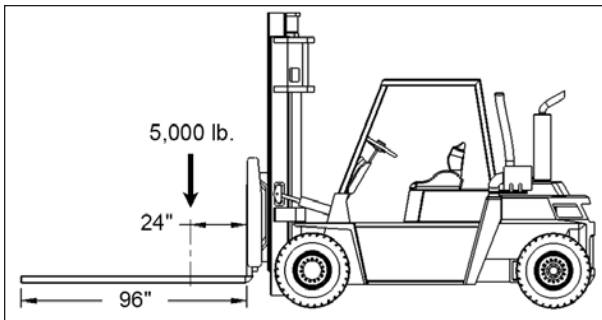

FIGURE 15: FORKLIFT MINIMAL LOAD AT 24"
- The forklift must have a minimal capacity of 5,000 lb. (2,268 kg) at 24" (610 mm) from the fork arm and 96" (2.44 m) length fork see Figure 15.